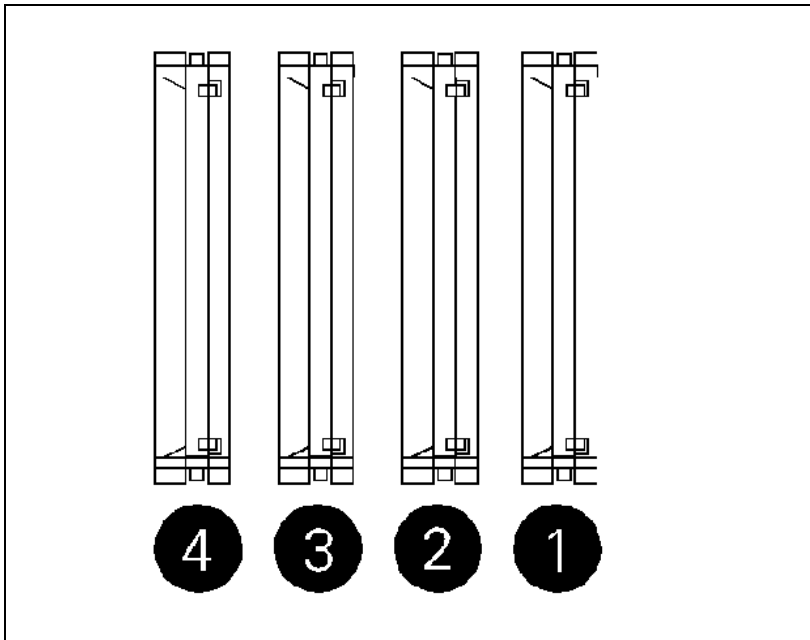

Figure 3-23 Identifying the Four SIMM Slots
- 1 Through the open door, you can see the four SIMM board slots (see previous Figure 3-23). For easiest installation, fill the slots from right to left, starting with slot 1 (see the diagram on the SIMM slots door).